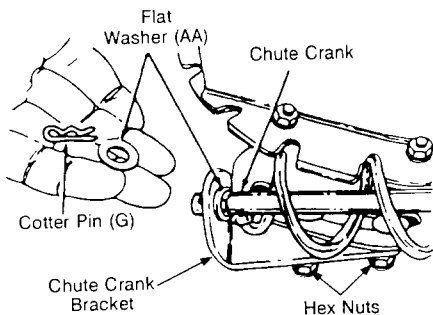

FIGURE 8
- Loosen hex nuts on the lower chute crank bracket. See figure 8.
- Place one flat washer (AA) on the end of the lower chute crank then, insert the end of the crank into the hole in the plastic bushing in the chute bracket. See figure 8. Secure with remaining flat washer (AA) and cotter pin (G) (5/16" diameter).
- With the hex nuts loosened on the chute crank support bracket adjust the chute bracket (see figure 8) so that the spiral on the chute crank fully engages the teeth on the chute assembly. Tighten the nuts on the lower chute crank bracket securely.